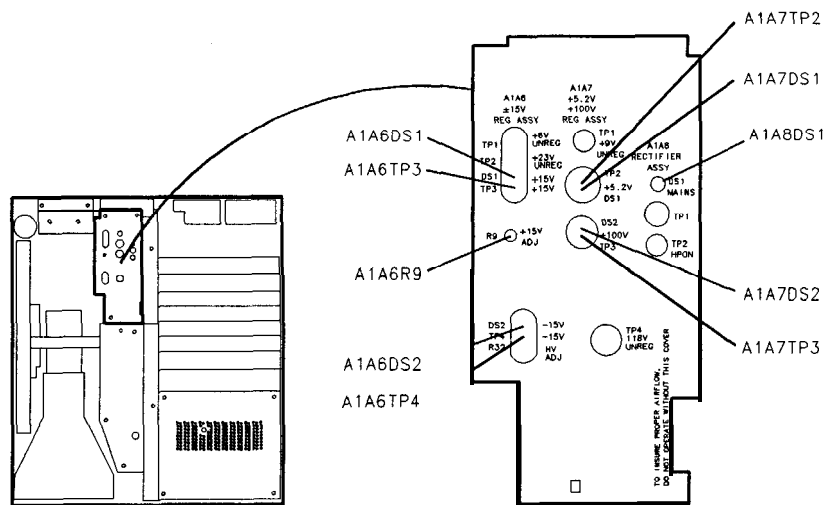
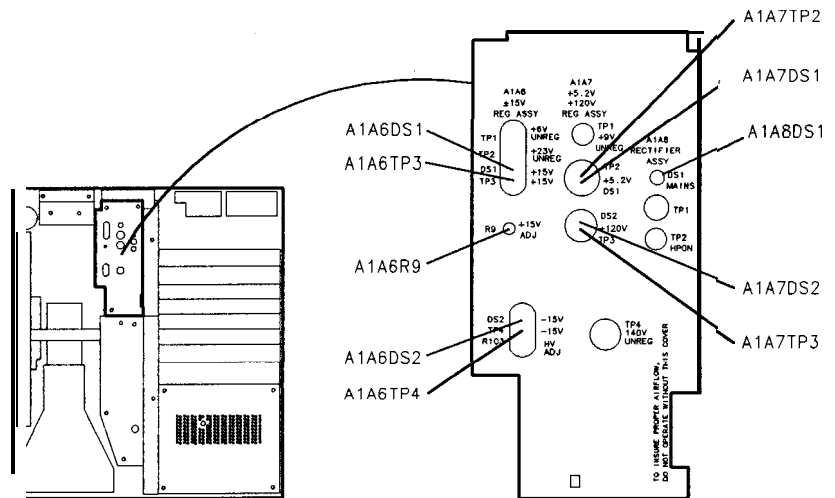

Figure 3-2.
Figure 3-3.
2. Set the spectrum analyzer LINE switch to ON. The MAINS power-on indicator A1A8DS1 (red LED) in the IF-Display Section should be lit. See Figure 3-2 or Figure 3-3 for the location of A1A8DS1.
Use Figure 3-2 for IF-Display Sections with serial number prefix 3001A and below. Use Figure 3-3 for IF-Display Sections with serial numbers 3004A and above.